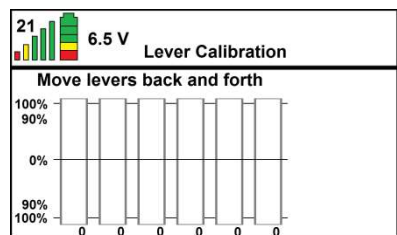

Figure: 20
- Press the ✓ button and you will be taken to the next screen. It says Move levers back and forth. Slowly operate the levers one at a time, from the maximum backwards position to the maximum forwards position (see figure 20).